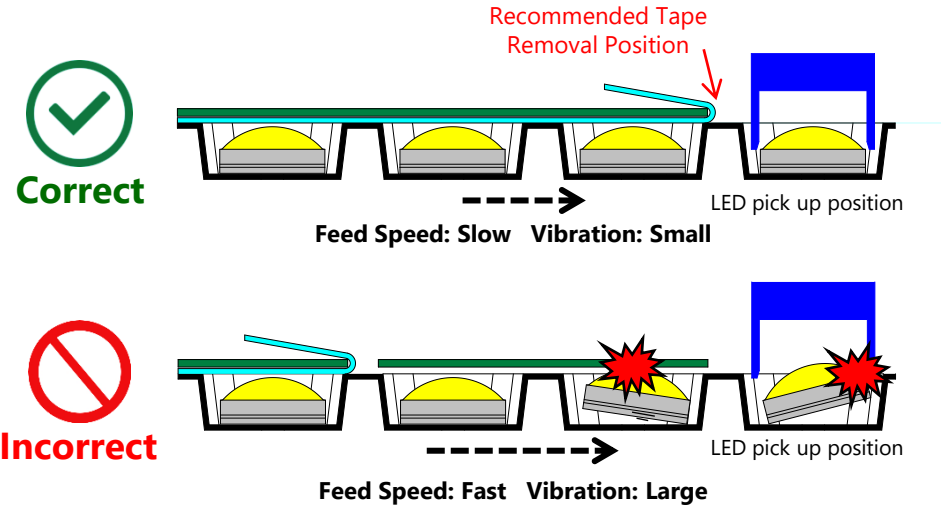

Figure 5. Examples of Correct/Incorrect Top Cover Tape Removal Positions
- When removing the top cover tape, it should be done adjacent to the target LED (See Figure 5). Otherwise, it may shake the embossed carrier tape and cause the LED to move within the tape pocket. This may cause